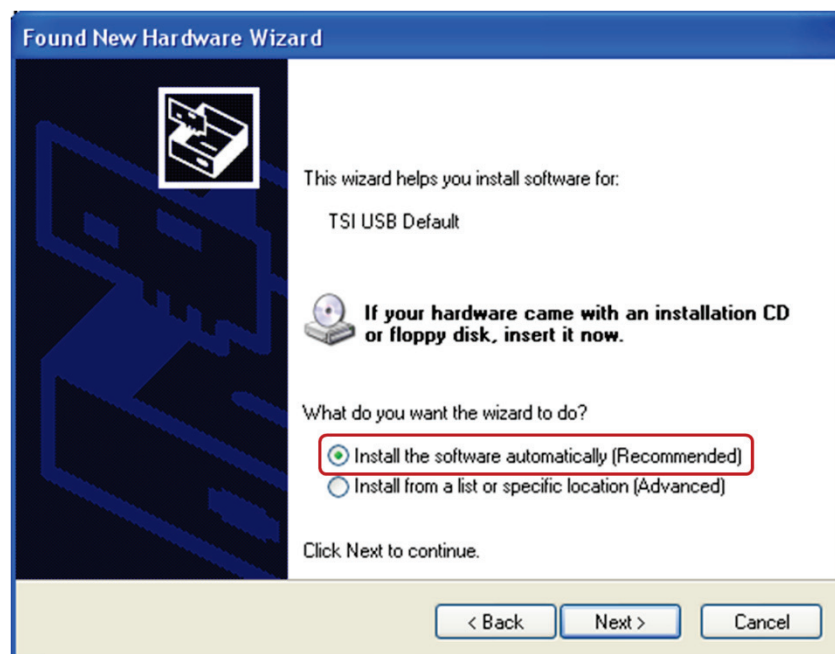

Figure 13
5. Select **Install the software automatically**, the recommended action. Then select the **Next >** button (Figure 13).